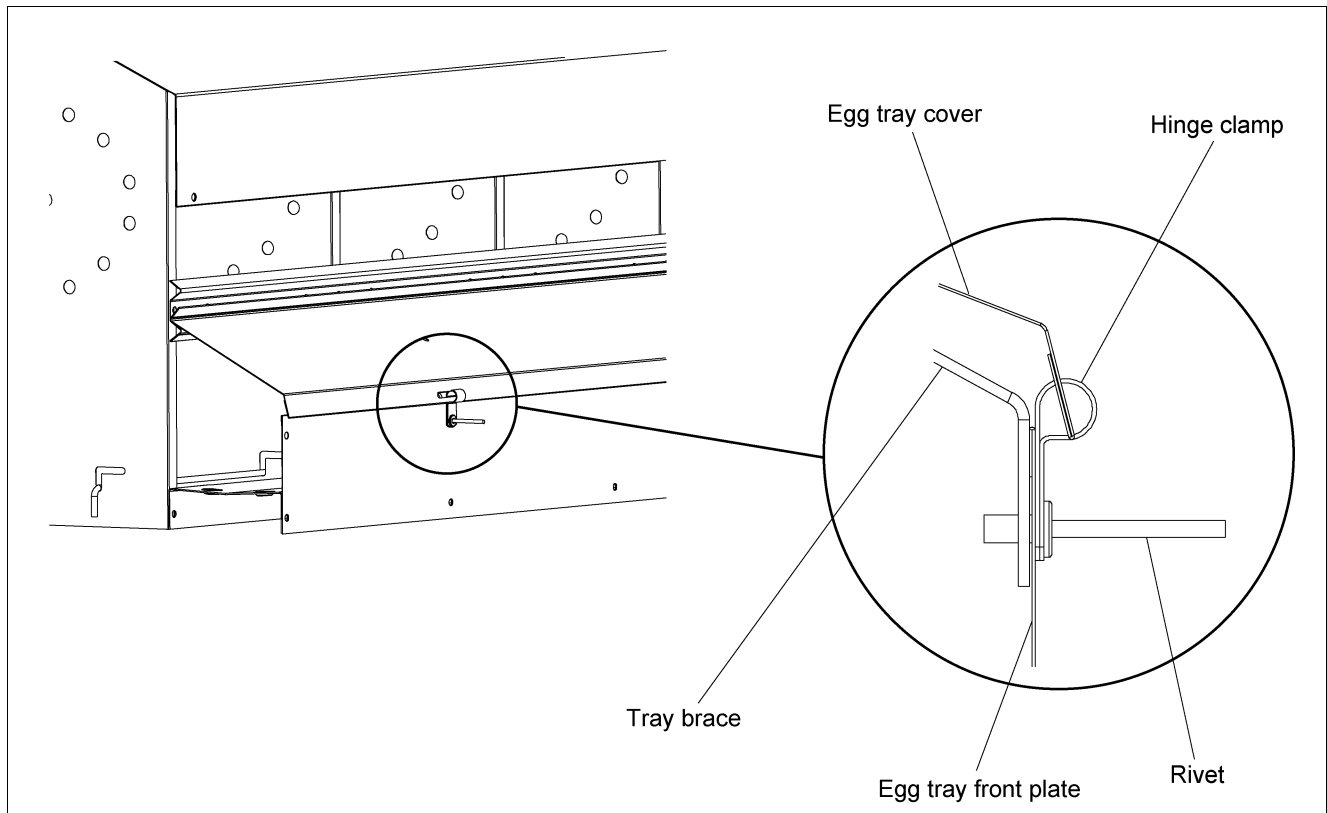

Figure 4L Hinge Clamp/Egg Tray Cover Assembly
9. Assemble hinge clamp to egg tray cover by inserting the clamp through the slots in the egg tray cover. There are three (3) clamps per egg tray cover. Repeat this process for both egg tray covers. (See Figure 4L.)